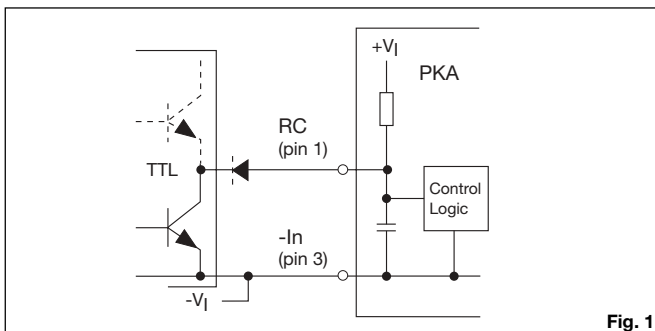

Fig. 1
Turn-on or turn-off can be realized by using the RC-pin. Normal operation is achieved if pin 1 is open (NC). If pin 1 is connected to pin 3 the PKA DC/DC power module turns off. To ensure safe turn-off the voltage difference between pin 1 and 3 shall be less than 1.8 V. RC is TTL open collector compatible (see fig. 1). Pin 1 is an output and no current should be driven into pin 1. Use a diode if necessary e.g. totem pole TTL logic. The internal pull-up resistance is $15 \text{ k}\Omega$.